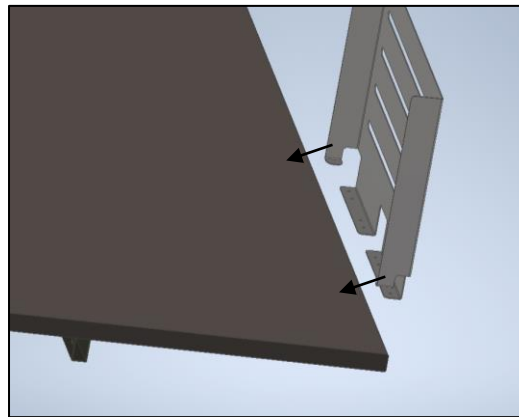

Figure 2
2. Slide the slat wall onto the worksurface in the desired location (Figure 2)